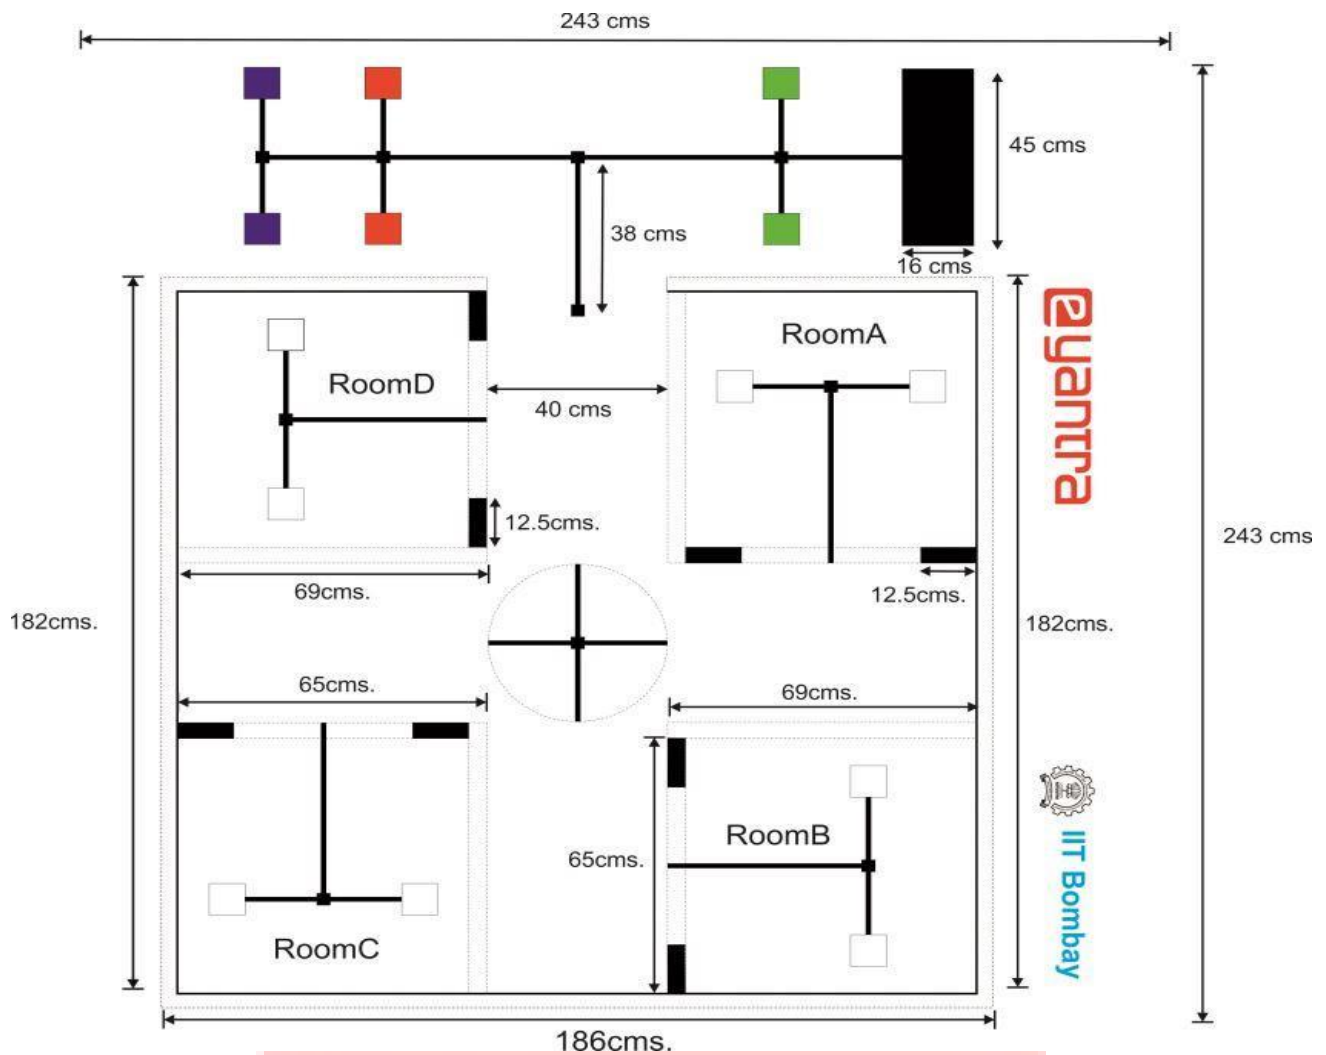

Figure 3: Arena with Dimensions
The arena for this theme is a simplified abstraction of a hotel with dimensions as shown in Figure 3.
Arena design is shown in Figure 3. A Corel Draw (.cdr) file containing the flex design will be provided to the teams. Each team prints the flex design according to the direction given in the .cdr file.
- Dimension of the flex sheet is 243cm x 243 cm. A small margin is provided on all the sides to allow for sticking the flex sheet on the ground (Refer to Figure 3).